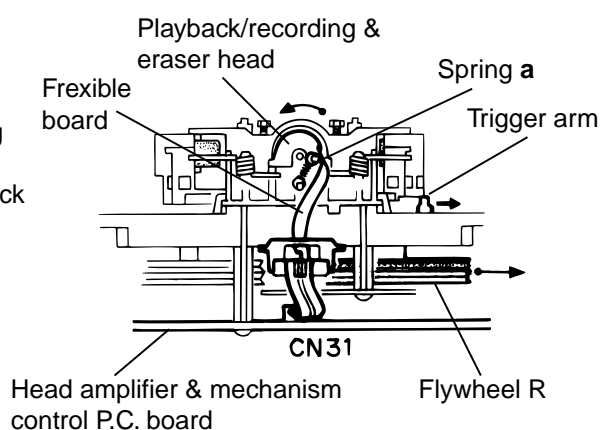
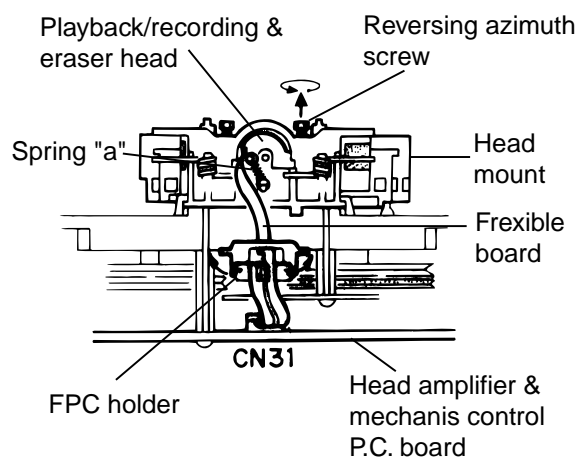

Fig. 2
Fig. 3
2. When the flywheel R is rotated in counterclockwise direction, the playback/recording & eraser head will be turned in counterclockwise direction from the position in Fig. 2 to that in Fig. 3.
1. Reassemble the playback head from the front of the head mount to the position as shown in Fig. 3.
4. Attach the flexible P.C. board to the chassis base, and fix it with the FPC holder as shown in Fig. 3.